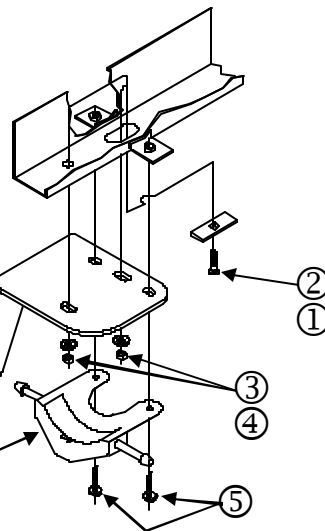

Figure 3
- Fishwire carriage bolts and 1/4 x 1 x 3 spacer blocks up thru large slots in each frame rail and down thru attaching holes as shown above. See **Figure 3**.